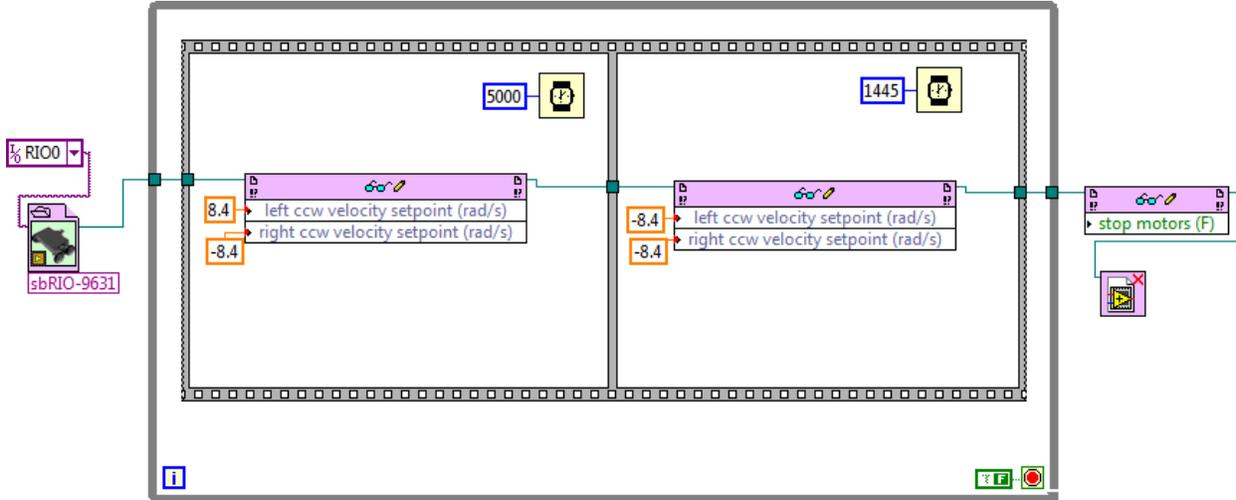

Figure 2.10
**Step 8:** Attach a Boolean true constant to the input of the read/write control (2). This is the one labeled stop notors.
**Step 9:** Connect a data wire as shown in figure 2.10